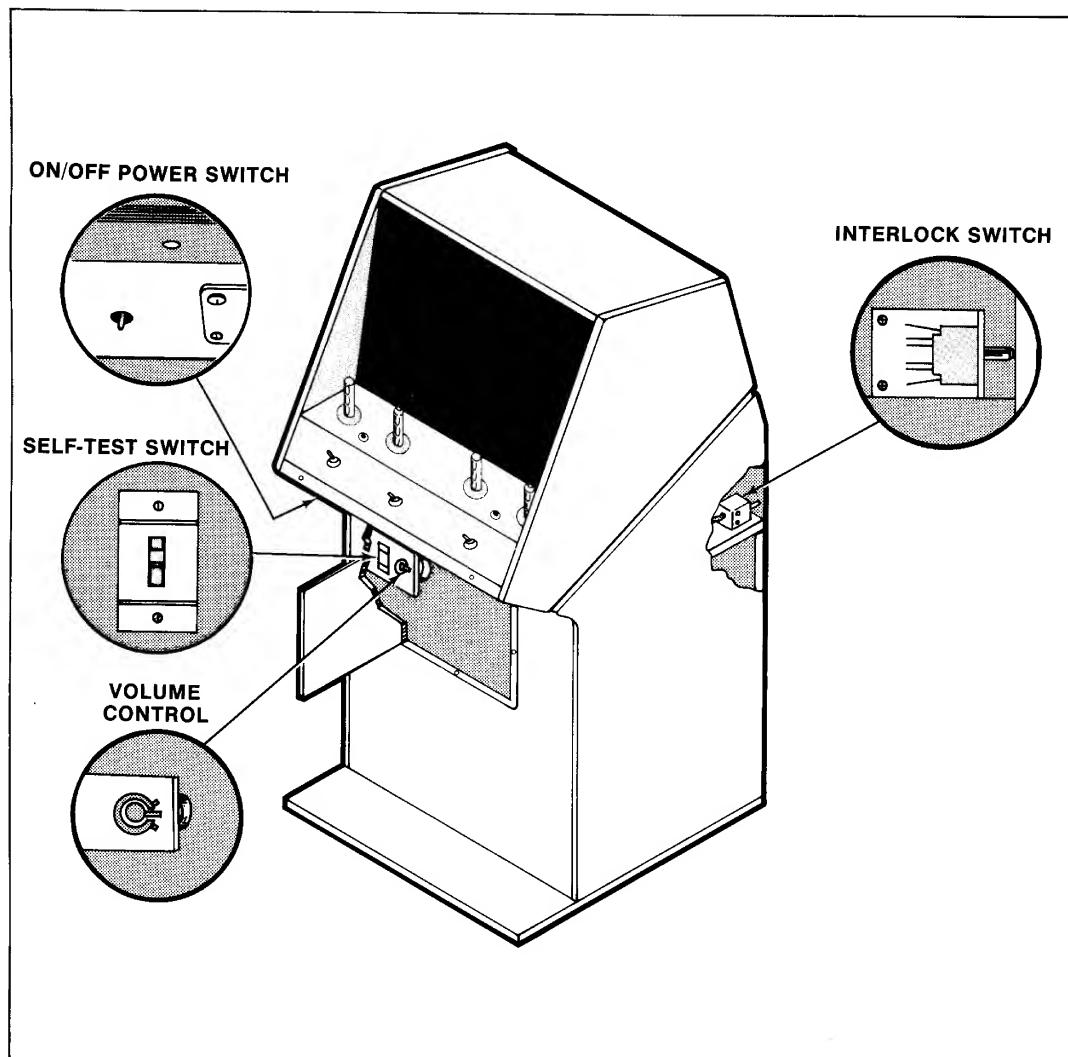

Figure 1-2 Location of On/Off, Interlock, Self-Test, and Volume Control Switches
To minimize the hazard of electrical shock while you are working inside the game cabinet, an interlock switch has been installed at the rear access door. This switch removes all power from the game while the access door is open. To help you conserve energy, a power on/off switch has been installed on the game so that it can be turned off during closed periods. Refer to Figure 1-2 for switch locations.
- If volume is incorrect for your location, open the coin door and adjust the volume control. See Figure 1-2 for location of volume control.
If volume is incorrect for your location, open the coin door and adjust the volume control. See Figure 1-2 for location of volume control.